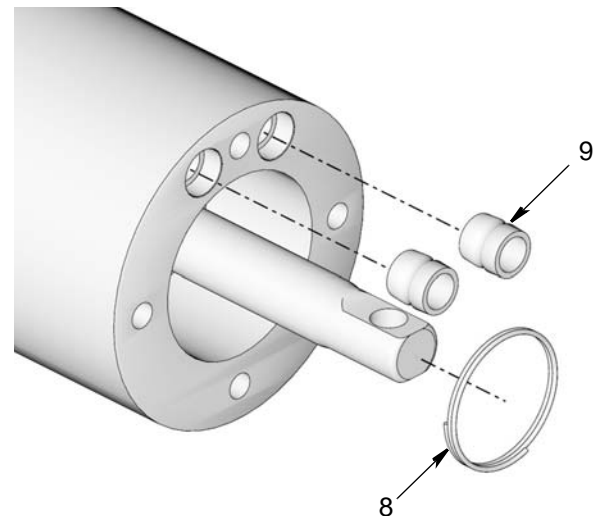

FIG. 28
13. Remove spring (8) and two seals (9). Put spring in a safe place to use it for reassembly. The seals (9) can be discarded. Use the new seals included in the kit for reassembly (FIG. 28).